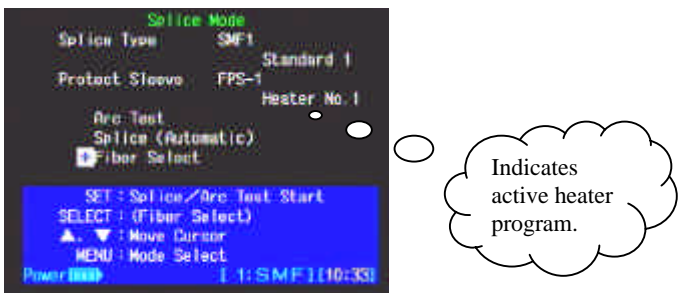

Figure 34. Active Heater Program
5. The active heater program is indicated on the SPLICE MODE MENU screen as shown in Figure 34.